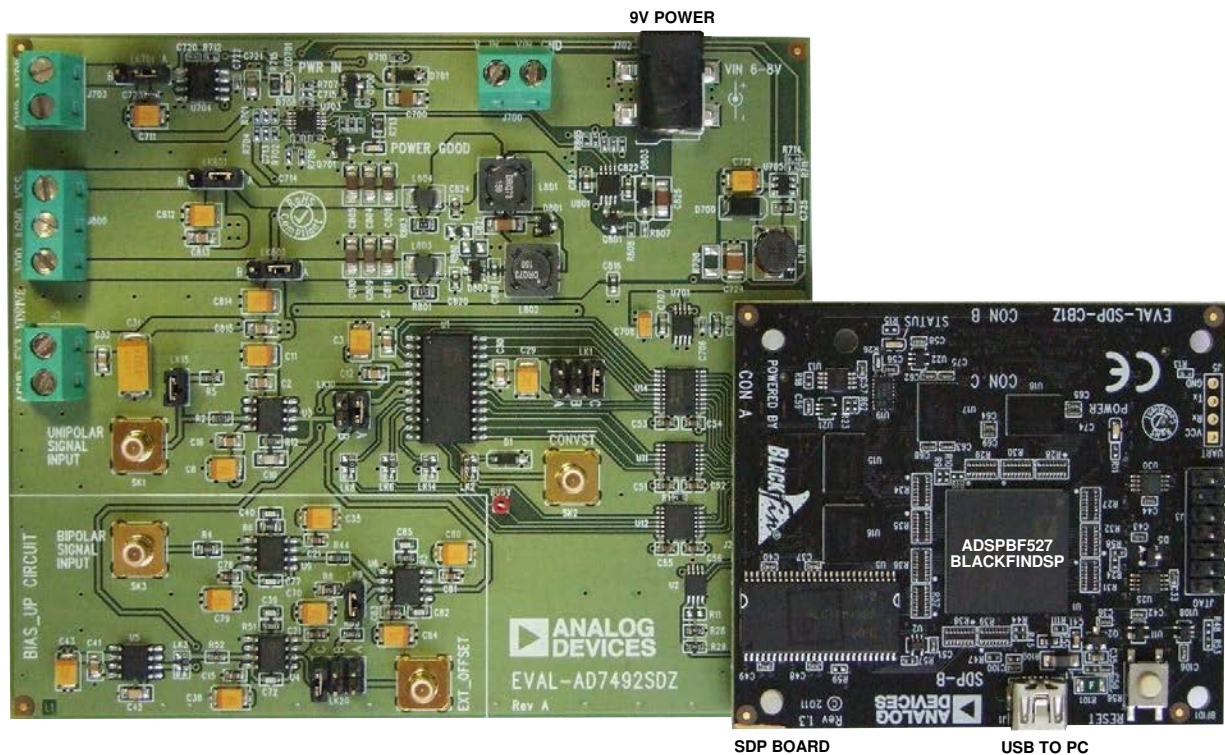

Figure 2. Hardware Configuration, Setting Up the EVAL-AD7492SDZ
2. Connect the EVAL-SDP-CB1Z board to the EVAL-AD7492SDZ board, as shown in Figure 2.
The AD7492 evaluation board connects to the EVAL-SDP-CB1Z. The EVAL-SDP-CB1Z board is a controller board that is the communication link between the PC and the main evaluation board. Figure 2 shows a photograph of the connections made between the AD7492 daughter board and the EVAL-SDP-CB1Z board.